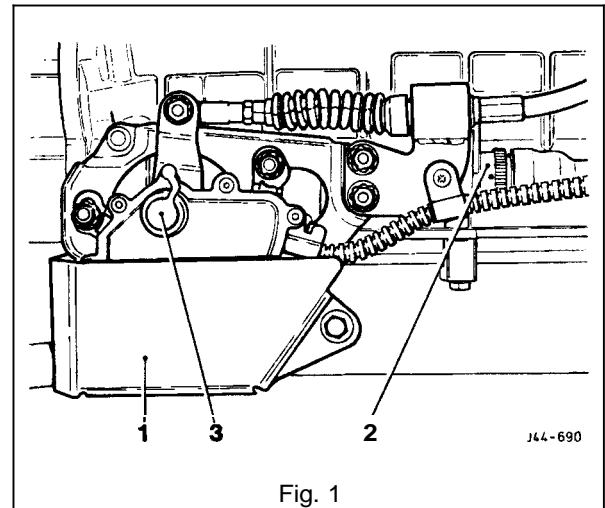

Fig. 1
- Release and remove the rotary switch protection cover (1 Fig.1) securing bolts; displace and remove the switch cover.
- Disconnect the transmission multi-pin socket (2 Fig.1).
- Displace the rubber sealing plug (3 Fig.1) from the rotary switch.
- Fit and align Service Tool JD161 (Fig. 1) to the rotary switch to align the switch rotor to the switch body.